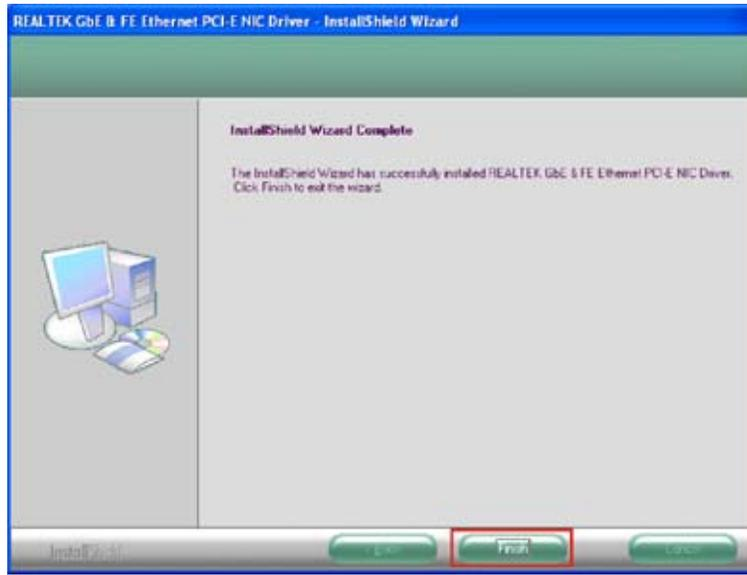

Figure 6-19: LAN Driver Installation Complete
Step 44: When the driver installation is complete, the screen in Figure 6-19 appears.
Step 45: Click **FINISH** to exit the InstallShield Wizard (Figure 6-19).